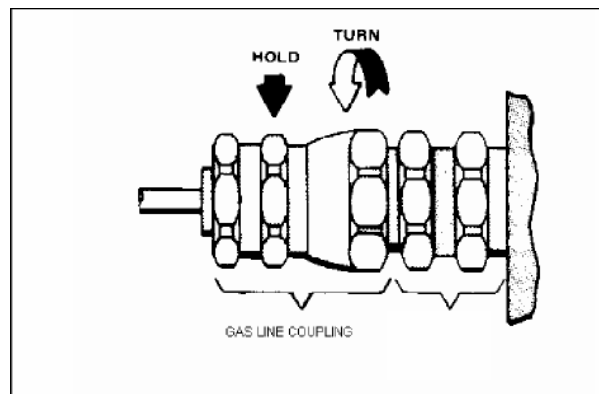

Figure 6-3
11. *Disconnect* the gas line from the fitting. **Use 2 wrenches.** Hold the body of the gas-line coupling with one wrench, while unscrewing the gas-line coupling nut from the fitting. See *Figure 6-3*. Note the **new** “HOLD” location illustrated.